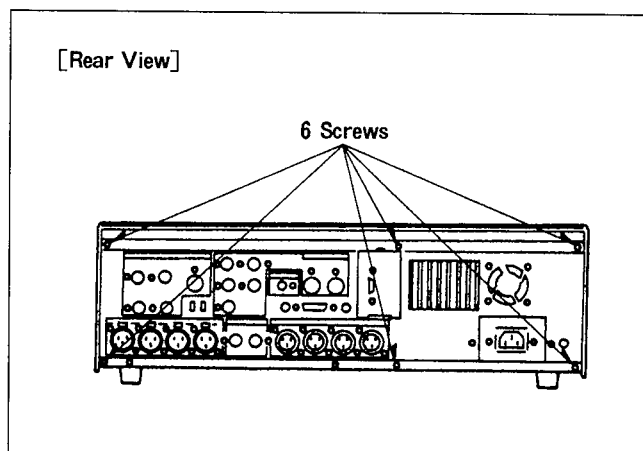

Figure D5
1. Unscrew the 6 screws (D) on the Rear Panel. (Figure D5)